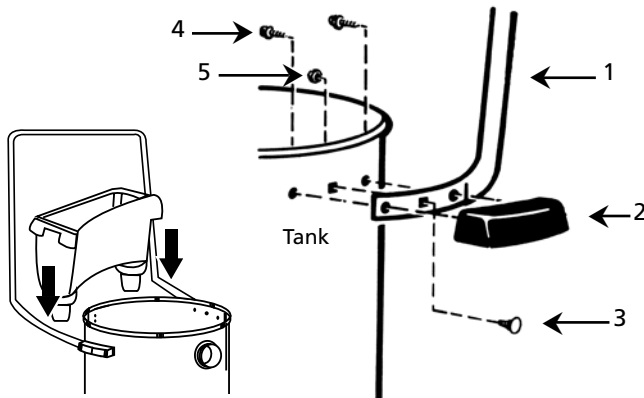

Figure 28 — Repair Parts illustration for Handle Assembly for Model 6AKY3
8. Stand vacuum up on dolly. Place metal carriage handle between tank and plastic side handles, and fasten tightly with screws provided. Be sure to spread ends of carriage handle when assembling to prevent damage to tank (See Figure 28).